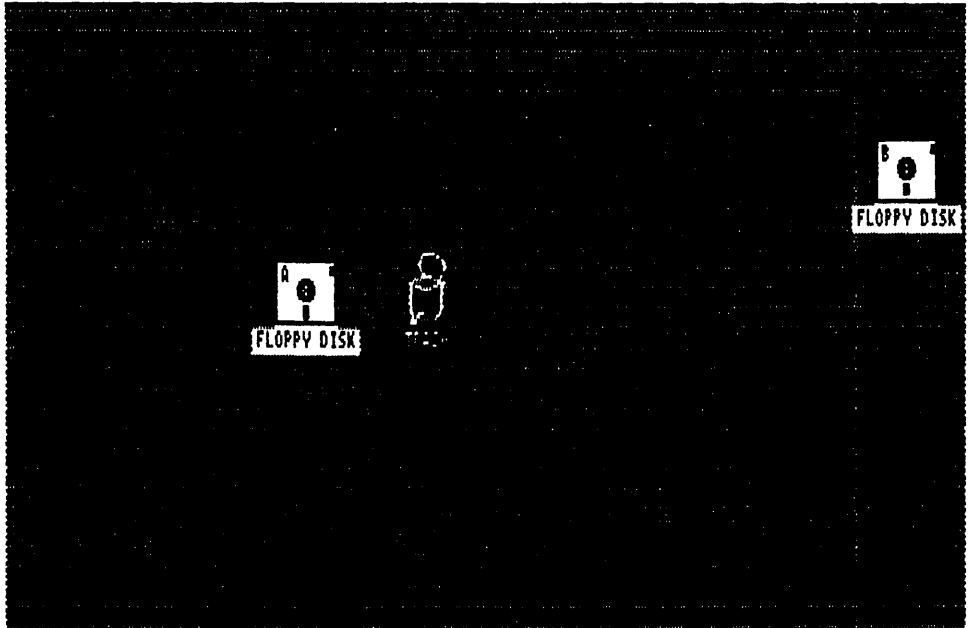

Fig. 1-3. Both the floppy disk drive A: icon and the Trash icon have been dragged into the center of the desktop.
- ☐ Drag the trash can icon next to the new position for the floppy disk icon (Fig. 1-3).